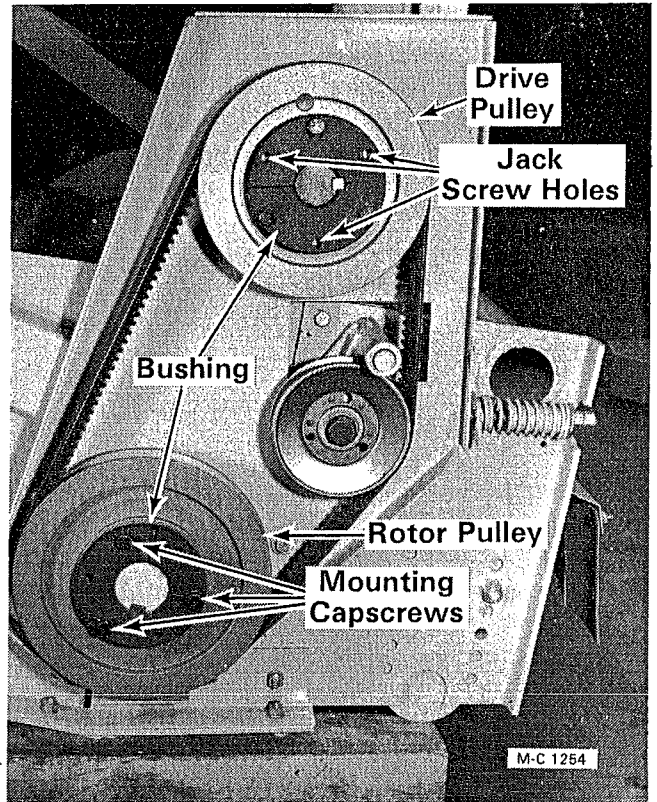

Figure 29 - TC Model Shown. On FM Models Rotor and Drive Pulleys Are Interchanged.
2. Remove the three mounting capscrews in the bushing, see Figure 29. Thread the capscrews into the three jack screw holes in the bushing. Tighten the three capscrews progressively and evenly until the bushing is loose on the shaft.